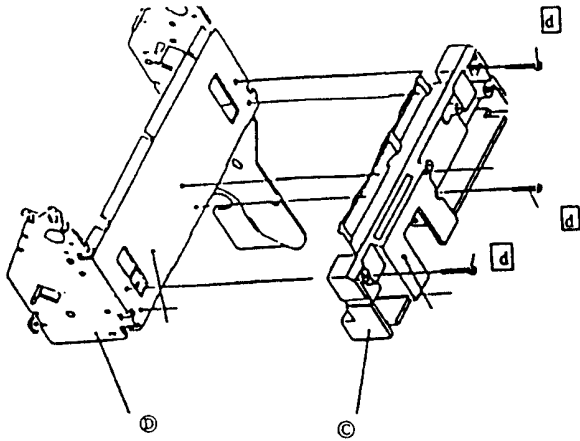

Figure 4-3. Stamp Paper Guide Removal
- With the Upper Frame Assembly C, upside-down, position the Stamp Paper Guide Assembly, D, and replace the three screws -④ (see Figure 4-3, above).